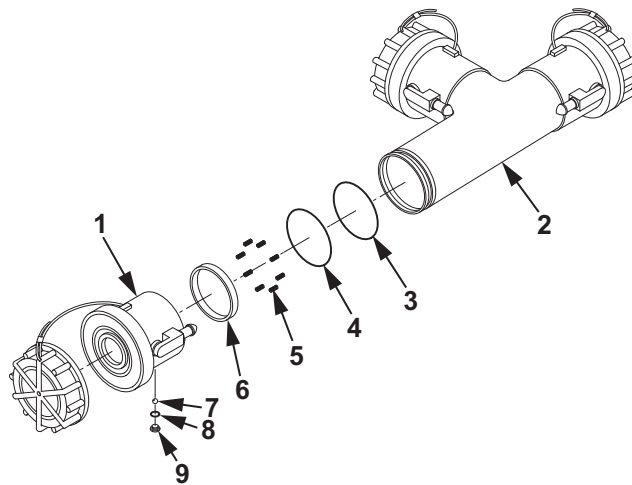

Figure 5. 2 In. Tee Assembly.
If it was necessary to replace dust cap (Figure 5, Item 23), perform the following installation steps.
1. Lightly lubricate new O-ring (Figure 5, Item 3) with petrolatum and install new O-ring (Figure 5, Item 3) in second groove on outside of tee assembly (Figure 5, Item 2).
2. Lightly lubricate new O-ring (Figure 5, Item 4) with petrolatum and install new O-ring (Figure 5, Item 4) in inside groove of tee assembly (Figure 5, Item 2).
3. Position eight springs (Figure 5, Item 5) in the eight holes on the inside of the tee assembly (Figure 5, Item 2).
4. Install new seal (Figure 5, Item 6) in inside groove of tee assembly (Figure 5, Item 2).
5. Position coupling (Figure 5, Item 1) into tee assembly (Figure 5, Item 2) and press in to line up groove of tee assembly (Figure 5, Item 2) with groove of coupling (Figure 5, Item 1).
Ensure all 41 ball bearings (Figure 5, Item 7) are accounted for before assembly.
6. Hold coupling (Figure 5, Item 1) over cleaning cloth with screw hole up and insert ball bearings (Figure 5, Item 7) into hole.
7. Lightly lubricate new O-ring (Figure 5, Item 8) with petrolatum and install new O-ring (Figure 5, Item 8) on screw (Figure 5, Item 9).
8. Install screw (Figure 5, Item 9) into coupling (Figure 5, Item 1).
9. Using torque wrench and screwdriver bit, torque screw (Figure 5, Item 9) to 25 in. lb (2.8 N•m).
Screw (Figure 5, Item 16) is a self-locking screw and is designed to be reused up to 15 times before replacement. If a torque wrench is not used to remove screw (Figure 5, Item 16), then screw (Figure 5, Item 16) should be replaced.
1. Using a torque wrench and screwdriver bit, check running torque on screw (Figure 5, Item 16). If running torque is less than 3.5 in. lb (0.45 N•m), discard screw (Figure 5, Item 16).